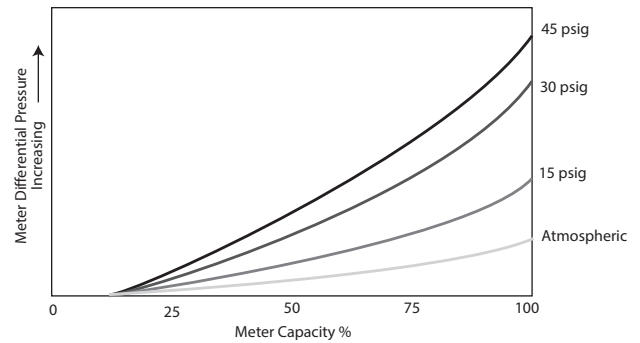

Figure 22 - Differential Curves change as pressure increases.
Developing an original differential baseline curve is recommended when the meter is first installed. Since any change in flow rate, line pressure or specific gravity will cause a change in the differential, at least three (3) test points are required at gas flow rates from 25% to 100% of meter capacity. (As shown in Figure 22, the resulting points will be non-linear, so a minimum of three points is necessary to establish a curve.) Plot the points on a graph and then connect the points to form a curve. This provides an accurate baseline for comparison to later tests. To help with record keeping, a data chart like the one shown in Figure 23 will allow the technician to compare new test data to older data. A test under actual operating conditions will provide the most reliable data for future checks of a meter's operating condition. This is particularly important when the line pressure is higher than 15 PSIG (200 kPa Absolute). Since meter differential pressure increases with line pressure, multiple curves may be necessary for meters under varying line pressure conditions.